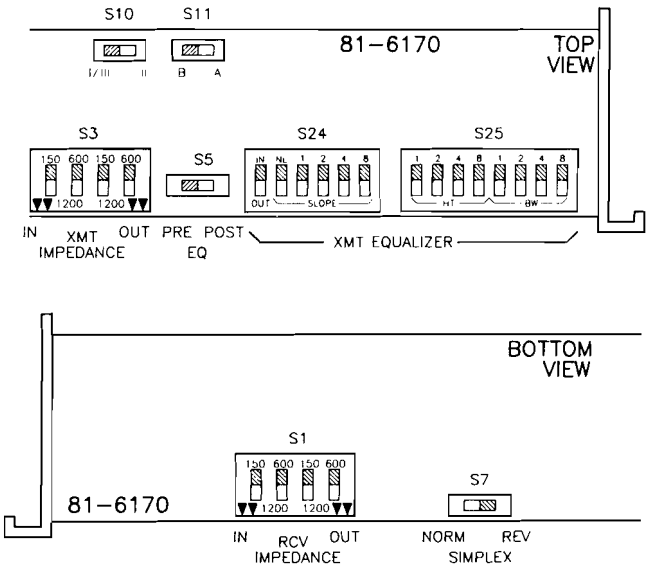

figure 13. 6170 option switch locations
3.05 Several option switches must be set before the 6170 is placed into service. Locations of these switches on the module's printed circuit board are shown in figure 13. Table 6 summarizes all switch options and provides a convenient **checklist** that can be filled out either prior to installation for prescription optioning or during installation to serve as a record for later reference. Refer to figure 13 and to table 6, and set each option switch on the 6170 as required.